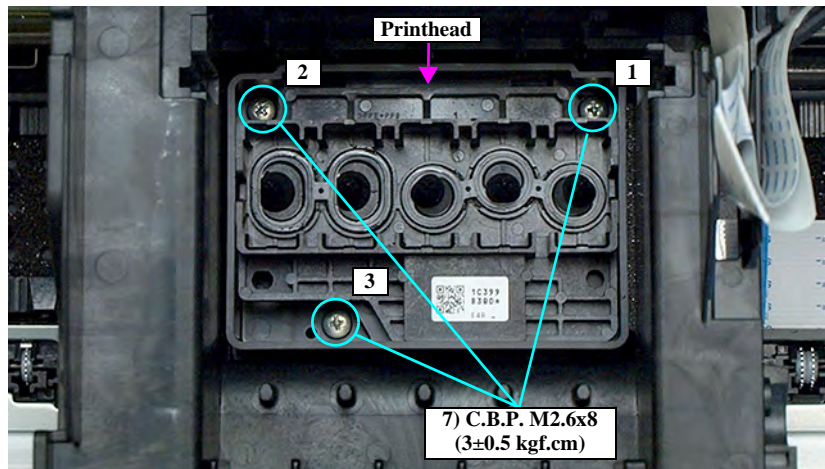

Figure 4-46. Removing the Printhead
- Tighten the screws in the order shown in Figure 4-46